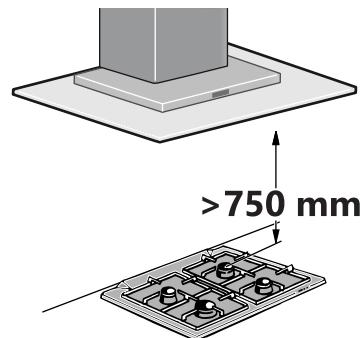

Figure 2. Gas stove
- 750 mm between the gas stove (the top edge of the stove stand) and the bottom edge of the range hood (refer to the description of Figure 2).